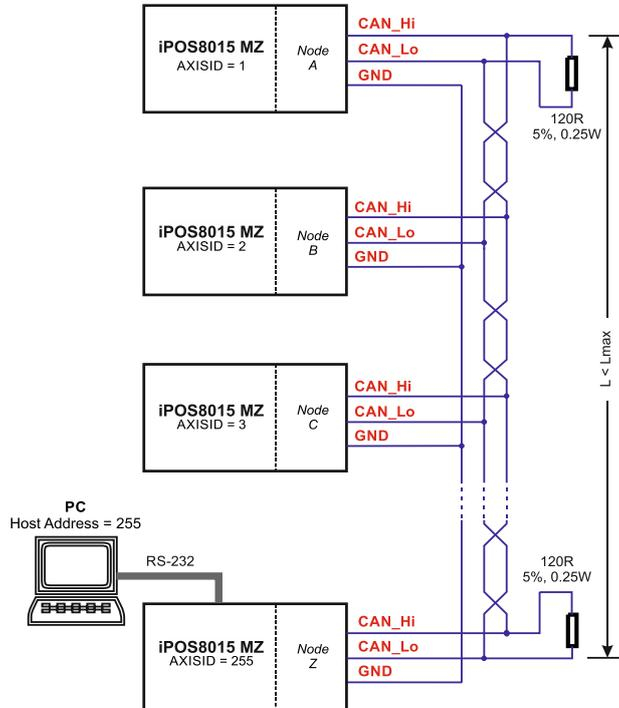

Figure 13.31. Multiple-Axis CAN network
1. The CAN network requires a 120-Ohm terminator. This is not included on the board. Figure 13.31 shows how to connect it on your network